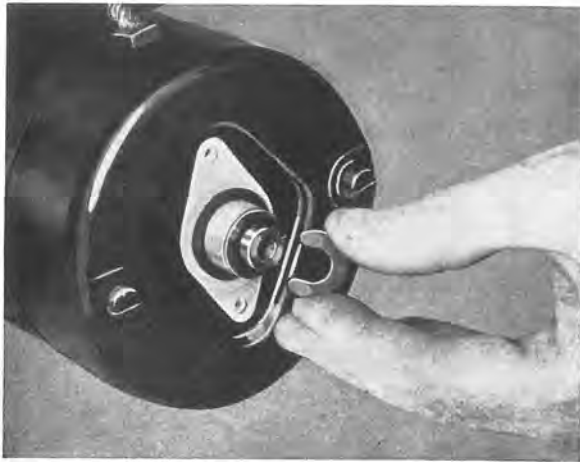

Fig. 3-31. Removing lock washer
2. Lift off the lock washer and adjusting washers as shown in Figs. 3-31 and 3-32.